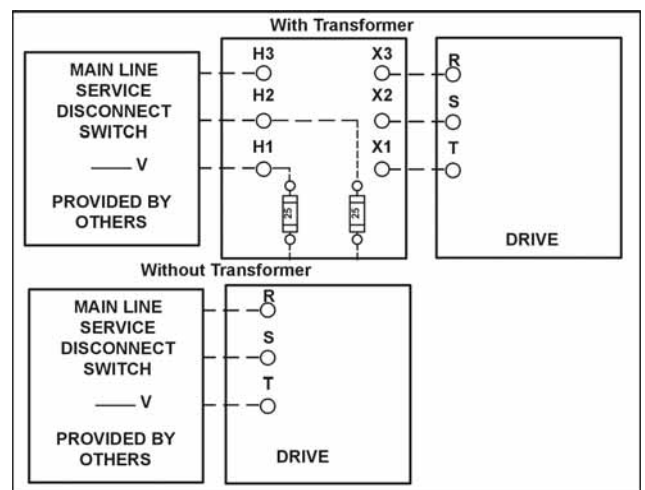

Figure 2-3
- 3) The 3-phase mainline power circuit is common to all drive types. The power may connect directly into the drive side of the controller. [See Figure 2-3.]